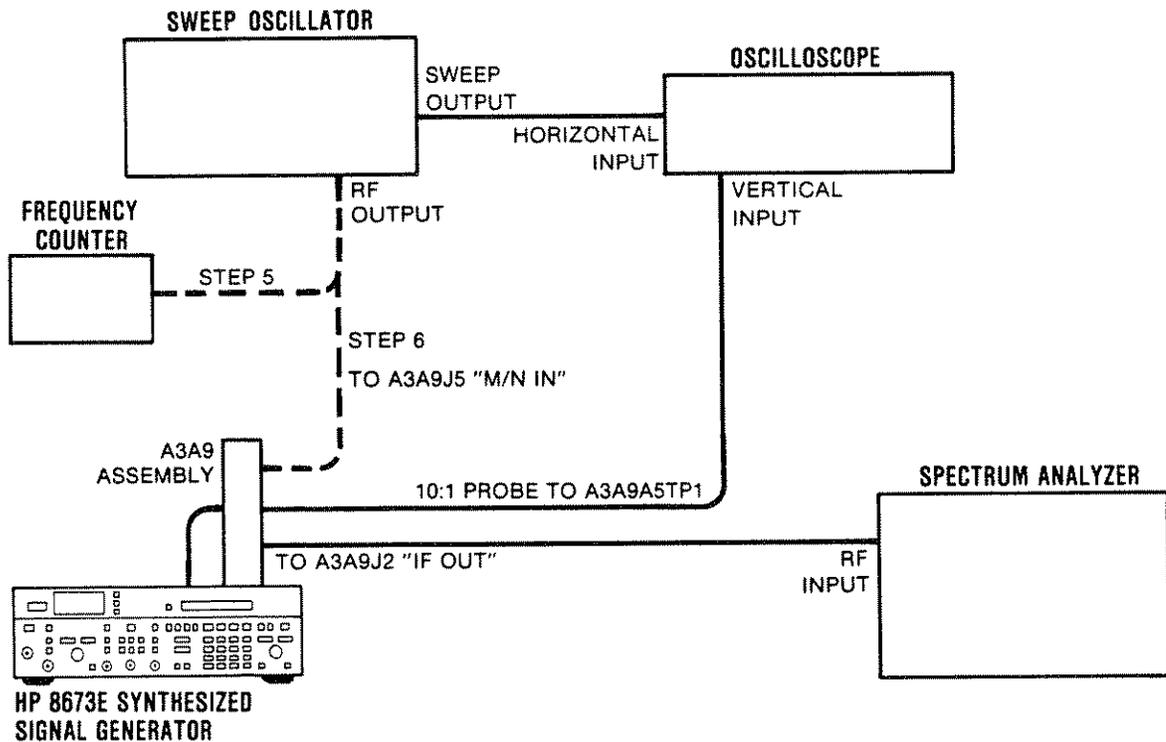

Figure 5-9. YTO Loop Sampler Adjustment Test Setup
6. Connect the equipment as shown in Figure 5-9. Connect the Signal Generator's mains power cord and set the LINE switch to ON.